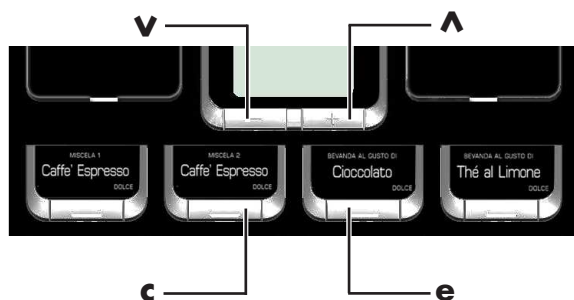

Fig. 65
- press the "e" key (Fig. 65) followed by the **UP** key (+ - Fig. 65) to access the RINSING entry;
- press the button "e" (Fig. 65) to start the automatic filling cycle.
“e” Key: ENTER (4 - Fig. 65)
“c” Key: CANCEL (3 - Fig. 65)
“V” Key: DOWN (2 - Fig. 65)
“^” Key: UP (1 - Fig. 65)